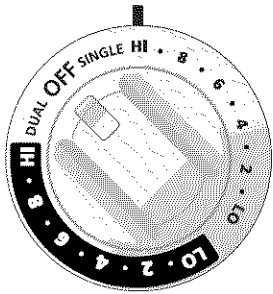
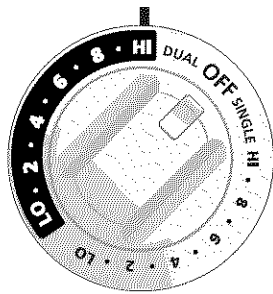
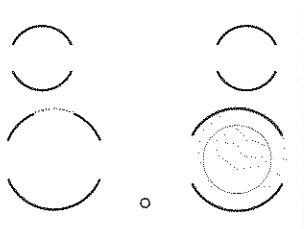

Figure 1
Figure 3
Figure 4
The cooktop is equipped with a dual radiant surface element located at the right front (See Figure 4) position. “**Single** and **Dual**” on the control knob are used to indicate which coil of the dual radiant element will heat. “**Single**” indicates that only the inner coil will heat (Figures 1 and 2). “**Dual**” indicates that both inner and outer coils will heat (Figures 3 and 4). You may switch from either coil setting at any time during cooking.
2. Push in and turn the control knob counterclockwise (See Figure 1) for smaller cookware or clockwise (See Figure 3) for larger cookware.
Note: See page 9, Figure 1 for recommended control settings.